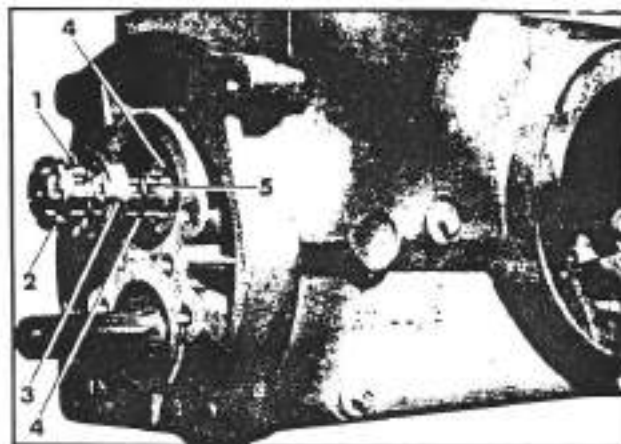

Fig. 3-45. Removal of the components and the bevel pinion shaft
- a. Bend back the opening-tabs of the lock washer (1; fig. 3-45) and remove the nut (2; fig. 3-45), the spacer (3; fig. 3-45), and seals (4; fig. 3-45).
- b. Remove the shaft (5; fig. 3-45) using a wooden mallet.
- When installing the bevel pinion (5; fig. 3-45) after having tightened the lock nut (2; fig. 3-45), be sure to ascertain that the tapered bearings are well set by tapping both ends of the shaft with a wooden mallet or rawhide or plastic mallet. Afterwards bend the nearest tab of the lock washer (1; fig. 3-45), into one of the slots of the lock nut (2; fig. 3-45).